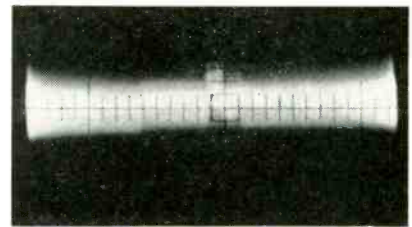

Fig. 8—Fuzzy pattern obtained with receiver gain set very high.
A. This situation is shown in Fig. 8. It